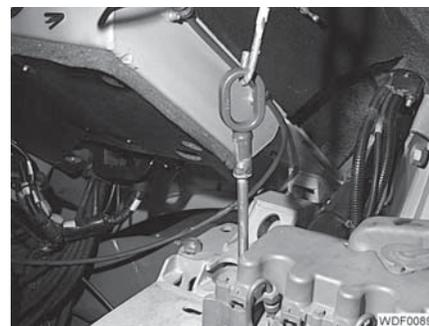

Fig. 60 Engine attachment
- Attach suitable lifting gear (e.g. workshop crane) to one side of the engine (Fig. 60) and raise it up by approximately 10 cm.